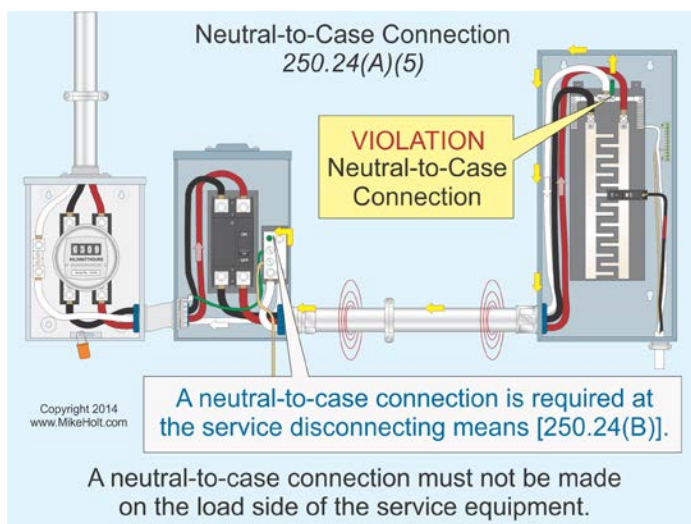

Figure 250-46
(4) Grounding Termination. When the service neutral conductor is connected to the service disconnecting means [250.24(B)] by a wire or busbar [250.28], the grounding electrode conductor is permitted to terminate to either the neutral terminal or the equipment grounding terminal within the service disconnect.
(5) Neutral-to-Case Connection. A neutral-to-case connection isn't permitted on the load side of service equipment, except as permitted by 250.142(B). Figure 250-46